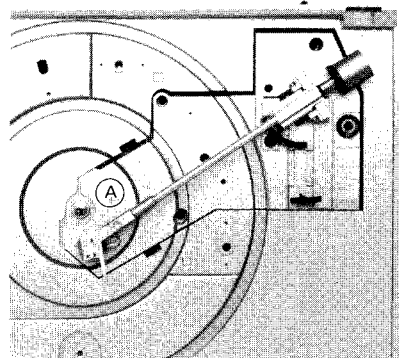

Fig. 13
4. Move the tonearm in direction of the center spindle as shown in Fig.13.
2. Set the tonearm as in Fig. 13.